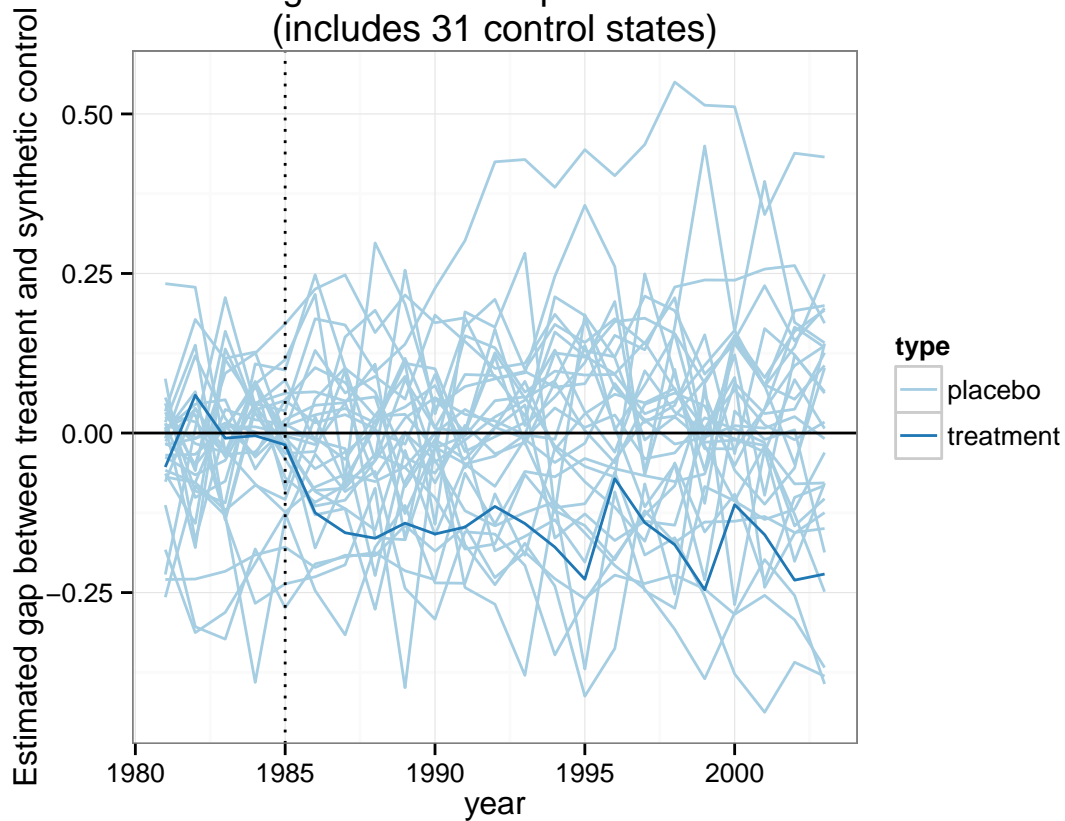

Figure 10: Placebo test results comparing treatment with placebo analysis on all control states. This plot does not exclude any states from the analysis.
**Placebo test plots:** We developed a series of placebo test plots to investigate the statistical significance of the gap between the treatment and its synthetic control. The series of plots below (Figures 10, 11, 12, 13, and 14) show the implications of different thresholds for keeping control states in the placebo test. The criterion for inclusion is the degree of difference between the pre-treatment (1981-85) MSPE for the placebo control gap vs. the gap for the treatment state. We try a range from basically allowing all the states (50x) to a strict filter (2x). The best compromise between allowing states to participate in the model and keeping out those with bad synthetic control is 10x (Figure 12). In that formulation the treatment state is relatively consistently below nearly all the placebo control states until the end of the period. We discount the results towards the end of the treatment period because it is far beyond the support of the pre-treatment period. These results indicate that there is very likely a significant decrease in fatalities from primary